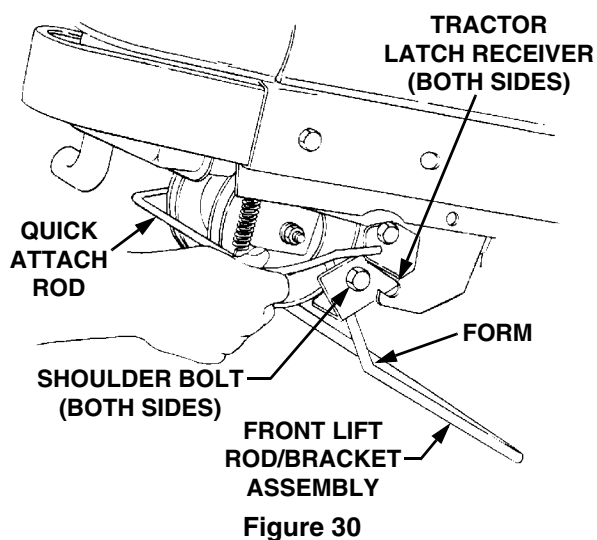

Figure 30
- Refer to Figure 30 to ensure the correct orientation of the front lift rod/bracket assembly [the form (bend) in sides of rod point downward]. From the front of the tractor, push downward and hold the tractor quick-attach rod. Slide the shoulder bolts on each side of the front lift rod/bracket assembly fully into the left and right tractor latch receivers.